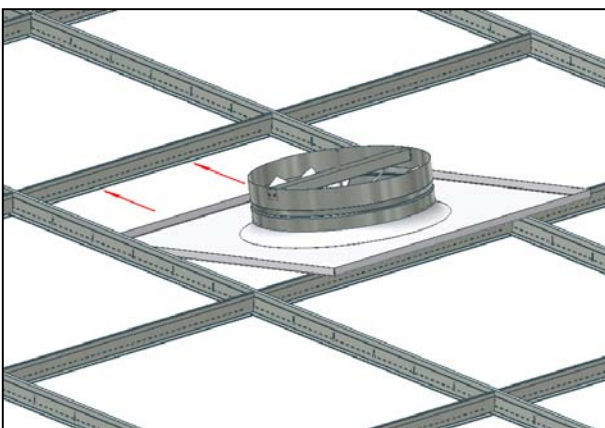

Figure 11: Slide into Ceiling Grid opening
5. Locate one end of the Diffuser into the ceiling opening, and in a sliding motion move it to the far end of the opening (figure 11).